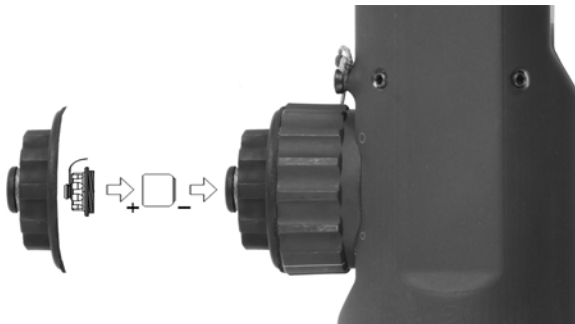

Figure 4-1: Battery Replacement
- Replace battery cover (hand tighten only). See Figure 4-1.